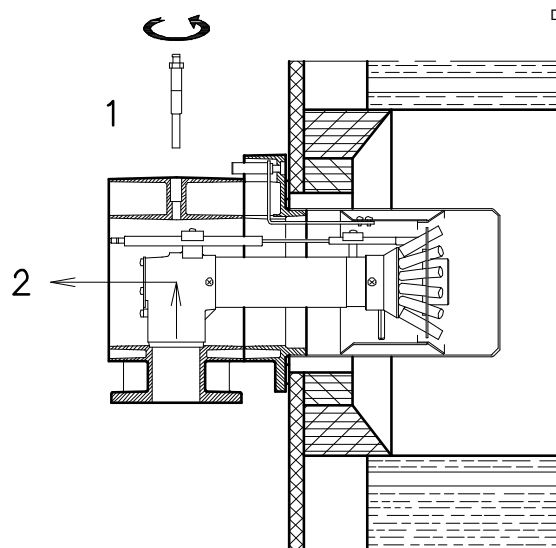

Fig. 11
In order to reach inside the combustion head (Fig. 11) proceed as follows:
- remove the screw 1)(Fig. 11);
- take out the inner part 2)(Fig. 11) of the head, and then calibrate them.
At this point of the installation, the combustion head is fixed to the boiler as shown in Fig. 11.